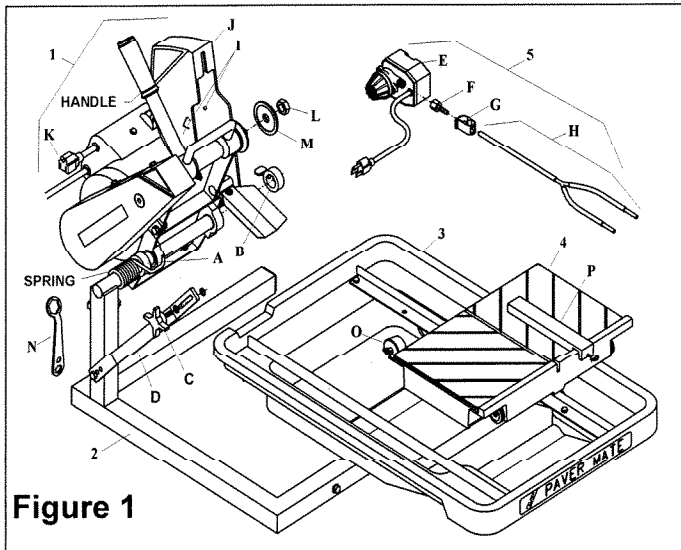

Figure 1
- * Set-up your saw as described above, move the conveyor cart back and forth from the front to the rear of the pan. If the blade contacts either side of the slot, the Cutting Head Adjustment must be performed. (See Figure 1)